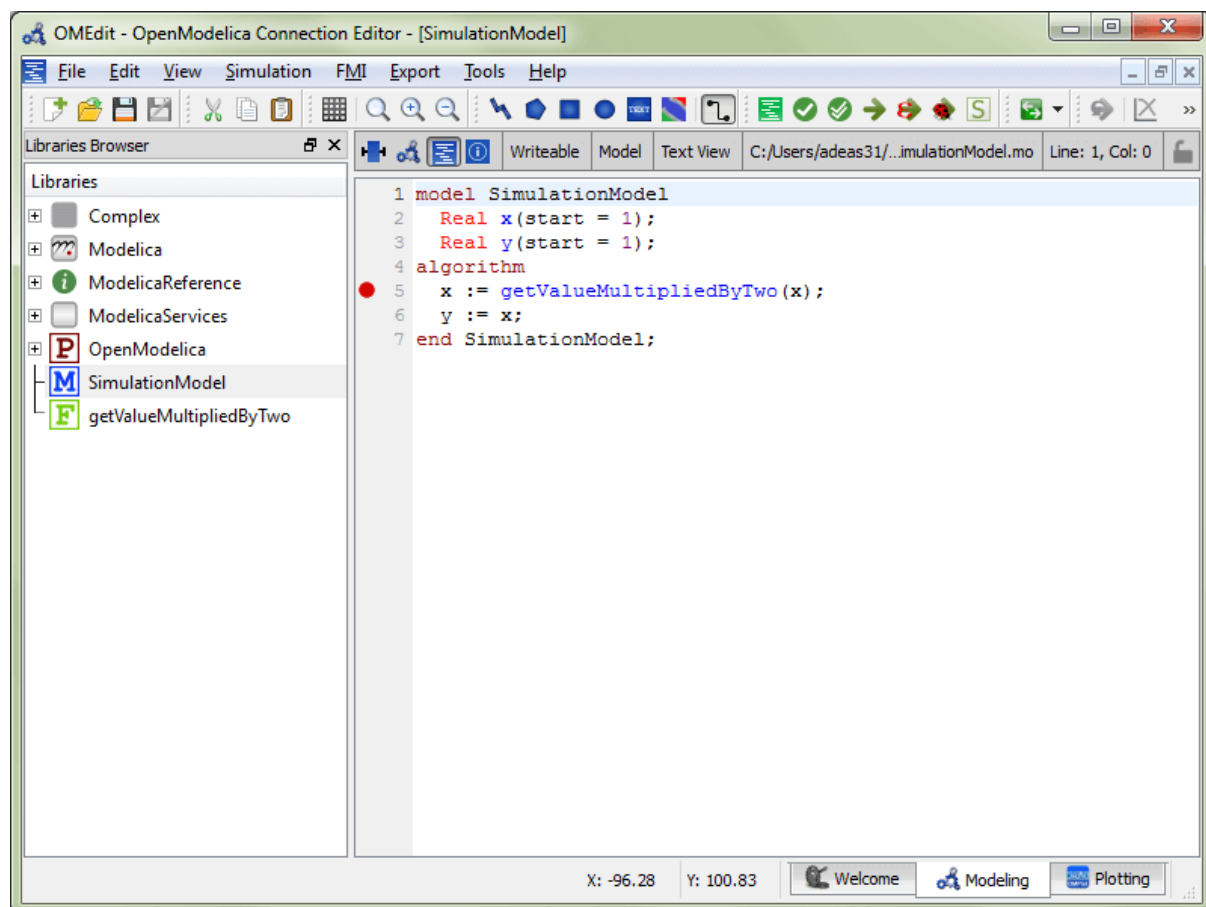

Figure 6.3: Adding breakpoint in Text View.
- Click directly on the line number in Text View, a red circle is created indicating a breakpoint as shown in Figure 6.3.